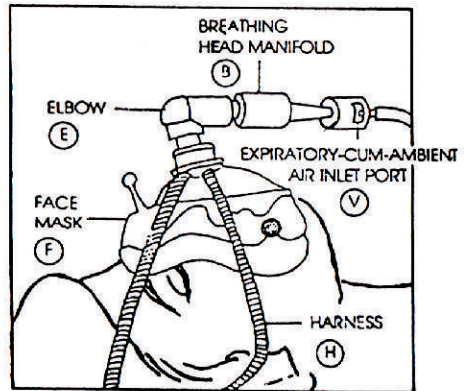

FIGURE-4
Put Face Mask (F) attached to the Breathing Head Manifold (B) on the patient's face and fix the Head Harness (H). (Figure-4)
Expiratory cum-Ambient Air Inlet Port (V) is the passage for air entrainment as well as patient's exhalation. Hence, caution should be taken not to obstruct this port. (Figure-4)
Remove Face Mask (F) from the patient's face. Switch 'ON' the Ventilator. (Figure-4)
Replace the Face Mask (F) on patient's face and fix it with the help of Harness. (H) (Figure-4)